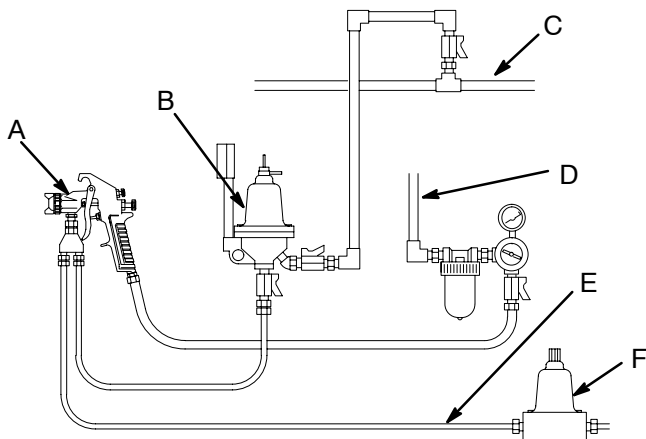
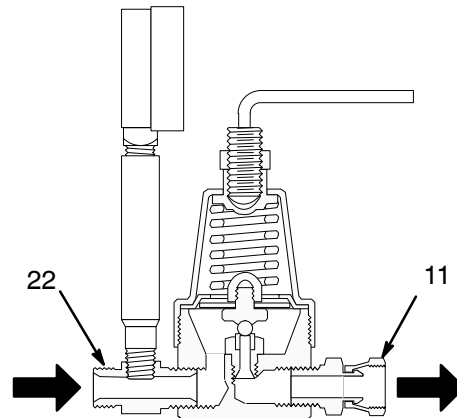

Fig. 1 04521
Fig. 2 04520
Install the valve in the return line of the spray guns, downstream from the last gun. See Fig. 1. Connect the return line to the 3/8 npsm(m) inlet (22) and the 3/8 npsm(f) outlet (11). Be sure the connections match the direction of fluid flow in the line. See Fig. 2.